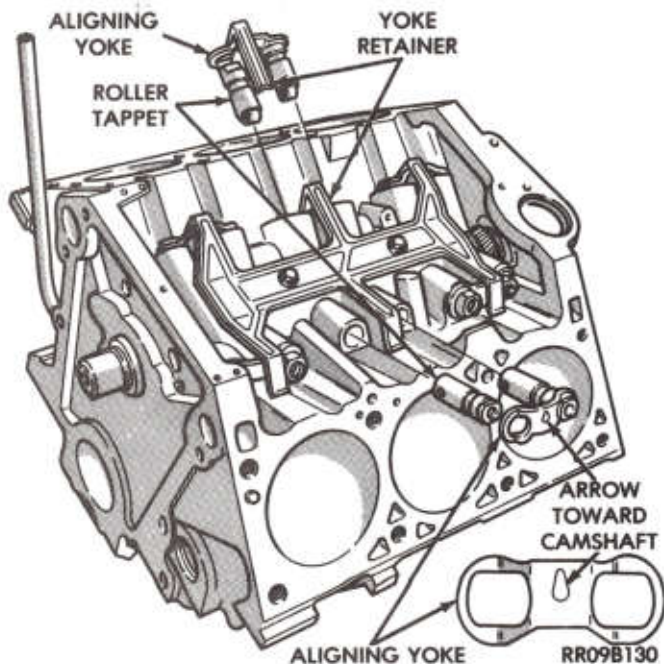

Fig. 23—Roller Tappets Aligning Yoke and Retainer
Roller tappet alignment is maintained by machined flats on tappet body being fitted (in pairs) into six aligning yokes. The yokes are secured by an alignment yoke retainer (Fig. 23).
(1) Remove valve cover and rocker assembly and push rods and identify push rods to insure installation in original location.
(2) With roller tappets, remove intake manifold, yoke retainer and aligning yokes (Fig. 23).
(3) Slide Tool C-4129 through opening in cylinder head and seat tool firmly in the head of tappet.
(4) Pull tappet out of bore with a twisting motion. If all tappets are to be removed, **identify tappets to insure installation in original location.**
- (1) Lubricate tappets.
- (2) Install tappets in their original positions.
- (3) With roller tappets, install aligning yokes with "arrow" toward camshaft (Fig. 23).
- (4) With roller tappets, install yoke retainer and torque screws to 200 in. lbs. (23 N-m) (Fig. 23) and install intake manifold.
- (5) Install push rods in original positions.
- (6) Install rocker arm and shaft assembly.
- (7) Install valve cover.
- (8) Start and operate engine. Warm up to normal operating temperature.